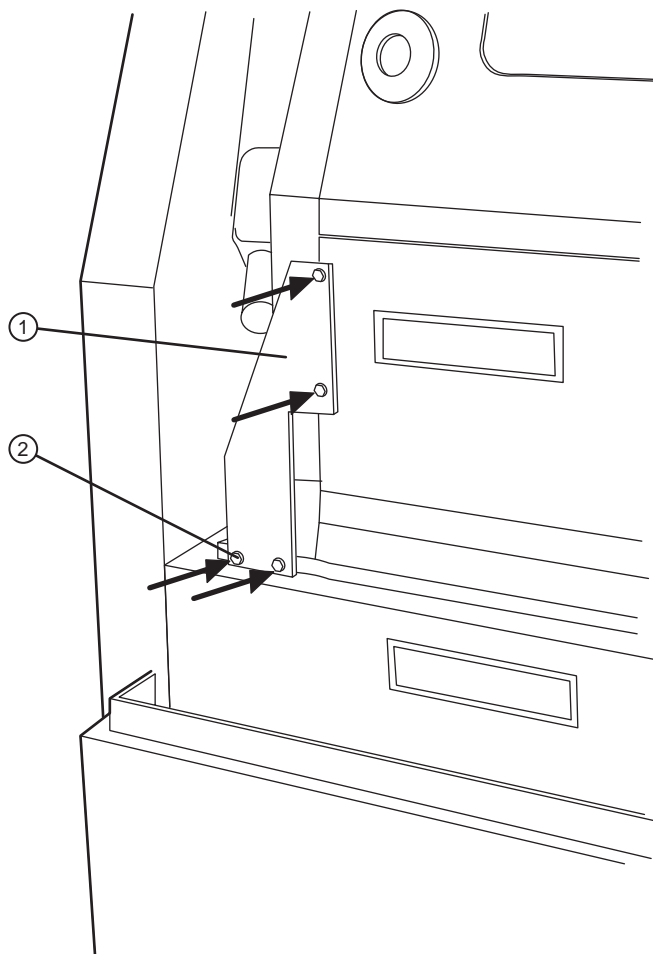

Figure 1-12 Removing the tie down bracket.
①—One of 2 plastic inserts. ②—Cardboard packing.
4. With the top cover open, remove the four (4) screws in the bridge tie down bracket (red) in the lower left and lower right corners of the bridge foot. Refer to Figure 1-12.